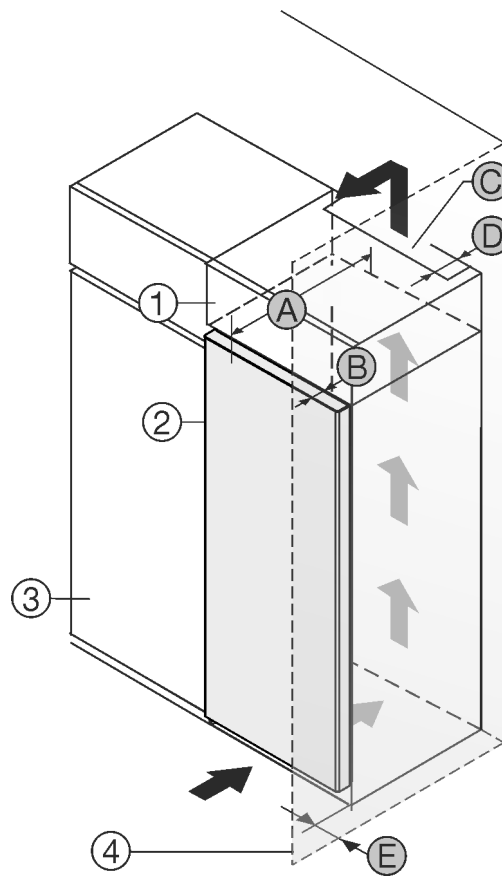

Fig. 1
- (1) Top cupboard \*
- (2) Appliance \*
- (3) Kitchen cabinet \*
- (4) Wall \*
- (A) Appliance depth \*
- (B) Door depth \*
- (C) Ventilation cross-section \*
- (D) Distance to the rear of the appliance \*
- (E) Distance to the side of the appliance \*
You can place the appliance directly beside the kitchen cabinet Fig. 1 (3).\*
There must be a ventilation shaft at the depth Fig. 1 (D) of the back of the top cupboard over the entire width of the top cupboard.\*
The cross section of the ventilation gap Fig. 1 (C) must be maintained below the ceiling.\*
If the appliance is set up with the hinges next to a wall Fig. 1 (4), the distance between the appliance and the wall must be at least 13 mm.\*
If the appliance is set up with the hinges next to a wall Fig. 1 (4), the distance between the appliance and the wall must be at least 20 mm.\*
In order to be able to fully open the door, the appliance must protrude by the depth of the door Fig. 1 (B) from the front of the kitchen cabinet. Regardless of the depth of the kitchen cabinets Fig. 1 (3) and use of wall spaces, the appliance can protrude further.\*